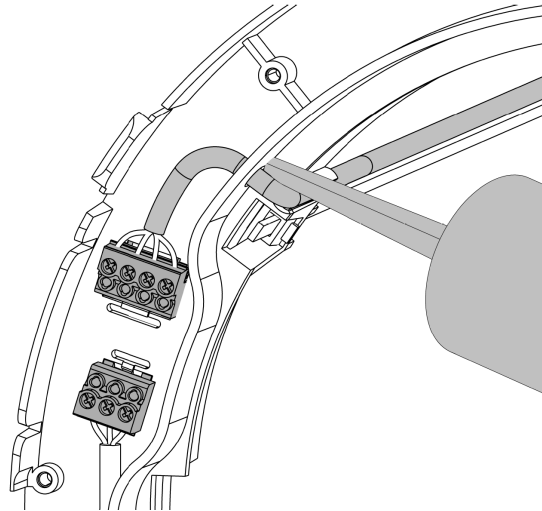

Figure 28 - Sealing cable hole
3. **Thoroughly** seal the cable hole with sealant to avoid any air leaks in AM 50, see Figure 28 below.